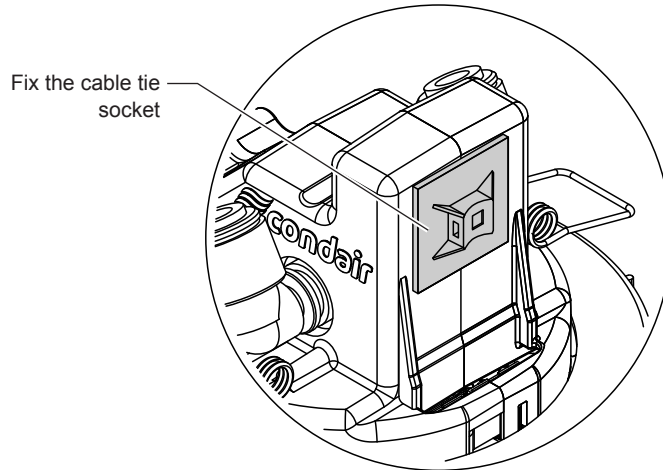

Fig. 28: Fixing the self-adhesive cable tie socket
- Fix the self-adhesive cable tie socket (service accessory) to the side of the spray head with the cable connections as shown in Fig. 28. Plug in the two cables and secure them to the cable tie socket with a cable tie.